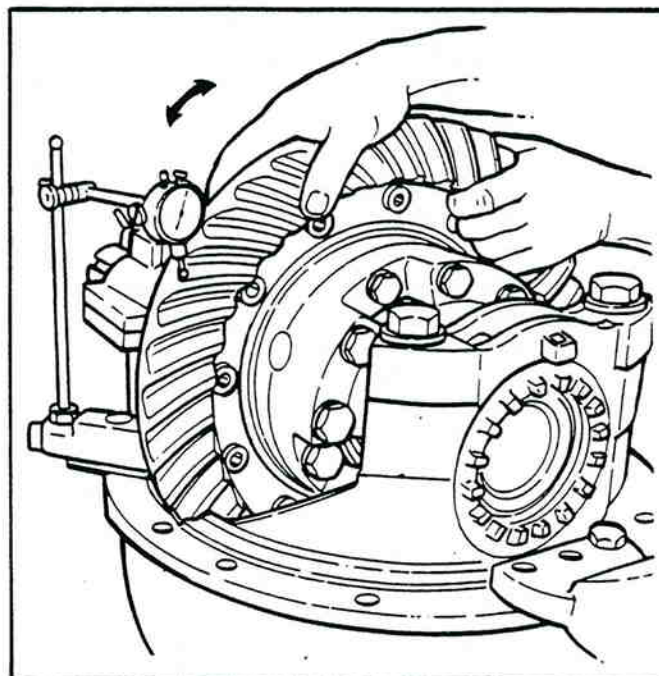

Figure 2-83. Attaching Dial Indicator.
1. Attach a dial indicator on the mounting flange of the carrier (Figure 2-83).
2. Adjust the dial indicator so that the plunger or pointer is against the tooth surface (Figure 2-83).
3. Adjust the dial of the indicator to zero (0).